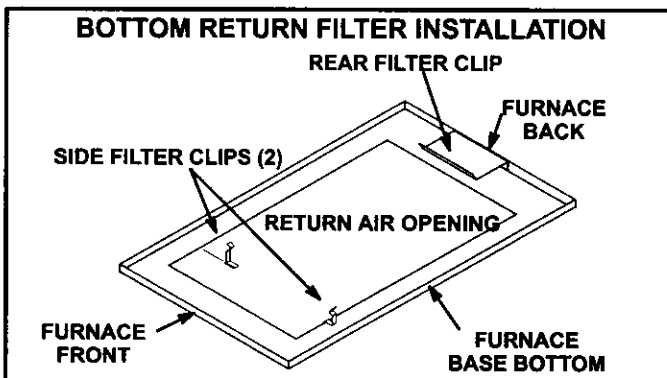

FIGURE 4
- 2 - Install filter clips, provided with unit, by slipping folded section of clip on edge of bottom opening. See figure 4.